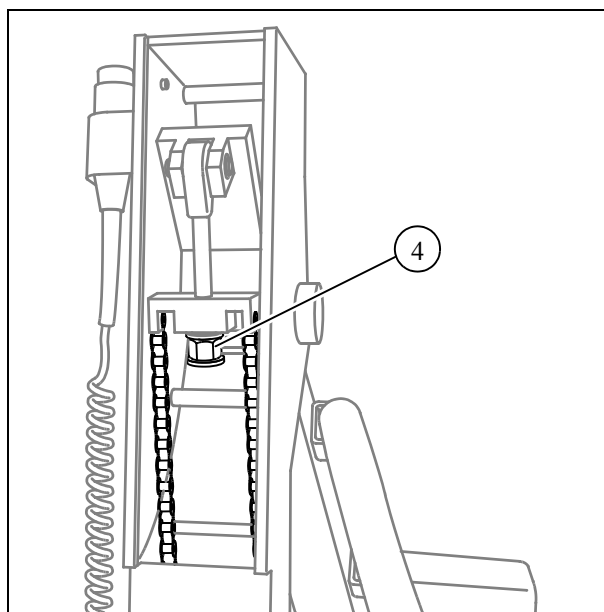

Fig. 21
- Tighten the screw using a 17 mm Allen key (4/Fig. 21).